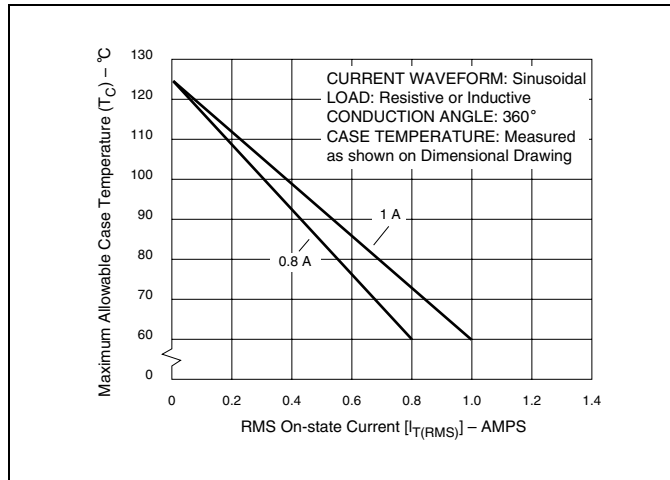
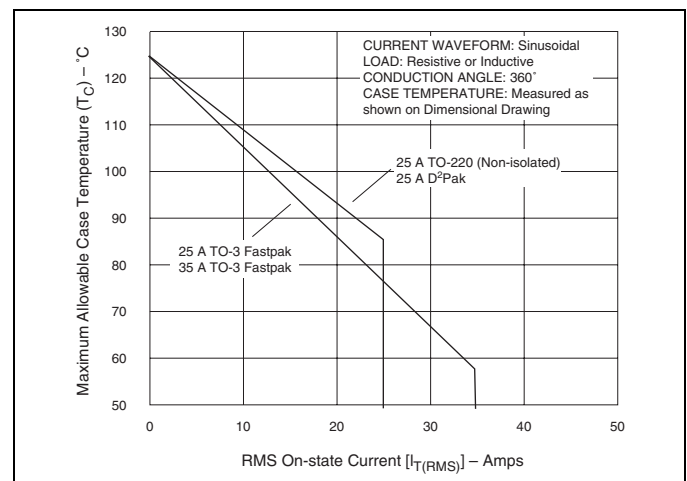
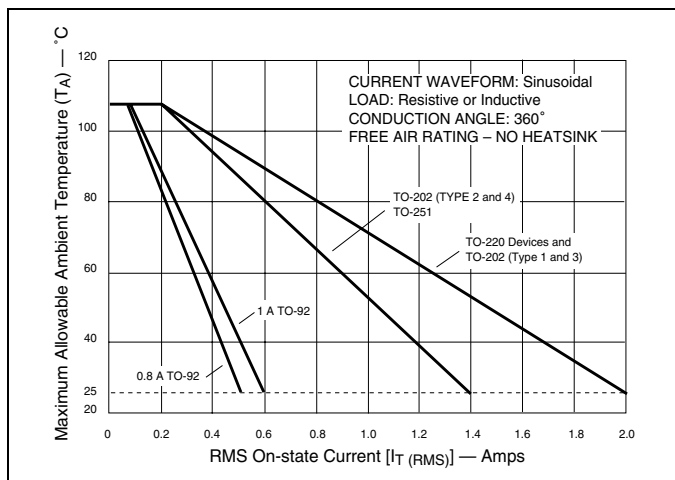
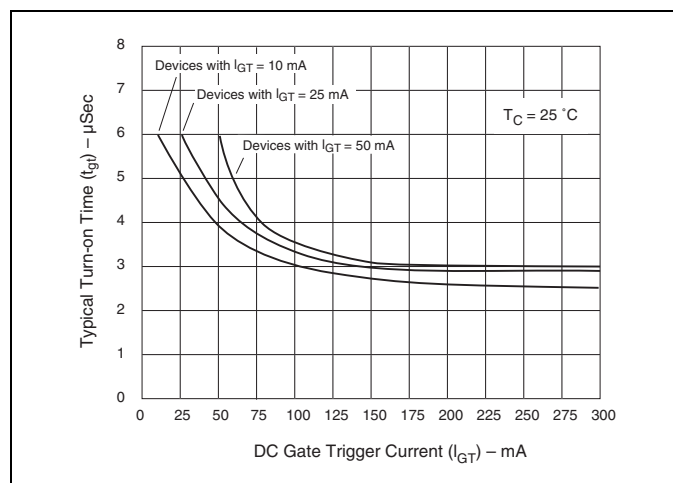

Figure E2.1 Maximum Allowable Case Temperature versus On-state Current (0.8 A and 1 A)
Figure E2.6 Maximum Allowable Case Temperature versus On-state Current (25 A and 35 A)
Figure E2.7 Maximum Allowable Ambient Temperature versus On-state Current
Figure E2.15 Turn-on Time versus Gate Trigger Current (Typical)
- (1) For either polarity of MT2 with reference to MT1 terminal
- (2) For either polarity of gate voltage (V_{GT}) with reference to MT1 terminal
- (3) See Gate Characteristics and Definition of Quadrants.
- (4) See Figure E2.1 through Figure E2.7 for current rating at specific operating temperature.
- (10) See Figure E2.15 for t_{gt} versus I_{GT} .
- (11) See package outlines for lead form configurations. When ordering special lead forming, add type number as suffix to part number.
- (12) Initial on-state current = 200 mA dc for 0.8 A to 10 A devices, 400 mA dc for 15 A to 35 A devices
- (13) See Figure E2.1 through Figure E2.6 for maximum allowable case temperature at maximum rated current.
- (14) Pulse width $\leq 10 \mu s$; $I_{GT} \leq I_{GTM}$
- (15) $R_L = 60 \Omega$ for 0.8 A to 10 A triacs; $R_L = 30 \Omega$ for 15 A to 35 A triacs
- (16) $T_C = T_J$ for test conditions in off state
- (17) $I_{GT} = 300$ mA for 25 A and 35 A devices
- (18) Quadrants I, II, III only
- (19) Minimum non-trigger V_{GT} at $125^\circ C$ is 0.2 V for all except 50 mA MAX QIV devices which are 0.2 V at $110^\circ C$.